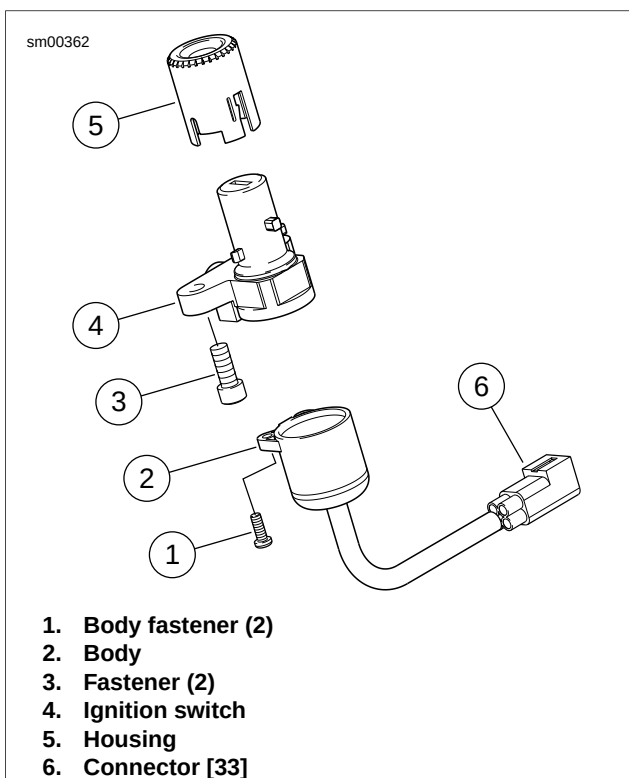

Figure 7-6. Ignition Switch Assembly: Firebolt
8. Remove upper fork clamp pinch fasteners (1).
9. Hold or brace the lower fork clamp and remove steering stem capnut (3).
10. Remove the upper fork clamp (4) from forks.
11. See Figure 7-6. Use SNAP-ON TAMPER-RESISTANT T45 TORX DRIVER (Part No. FTXR45E) to remove ignition switch fasteners (3) securing ignition switch (4) to upper fork clamp. Slide ignition switch out of upper fork clamp.
1. See Figure 7-6. Remove ignition switch housing (5) from ignition switch (4) by prying tabs on side of housing.
2. Remove ignition switch body fasteners (1). Separate ignition switch body (2) from ignition switch (4).
See Figure 7-6. In next step, be sure wide slot in ignition switch housing (5) is installed over wide boss on ignition switch (4).
1. Push ignition switch housing (5) on to ignition switch (4).
- See Figure 7-6. Attach ignition switch assembly to upper triple clamp using ignition switch fasteners (3). USE LOCTITE 271 (red) on fasteners. Tighten to 18-20 ft-lbs (24.4-27.1 Nm).